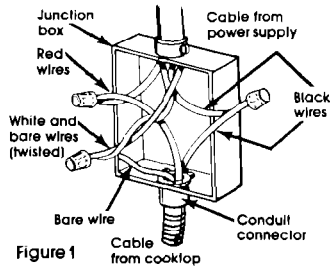

Figure 1
2. Connect the two black wires. Then connect the two red wires. See Figure 1.